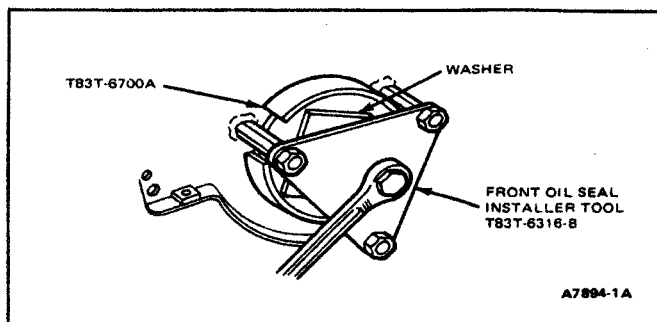

FIG. 34 Front Crankshaft Seal Installation—In Vehicle
2. For engines without 3 weldnuts on front cover, place seal into Tool T83T-6700-A, and install over end of crankshaft. Install Tool T83T-6316-B and tighten nut against washer and installation tool to force seal into front cover plate (Fig. 34).
3. For engines with 3 weldnuts on front cover, place seal into Tool T83T-6700-A, install over end of crankshaft and attach bridge to weldnuts. Draw seal into front cover by rotating center screw clockwise (Fig. 34).